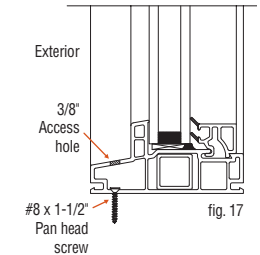

fig. 17
- From the exterior pre-drill 3/8" access holes through the outer wall of the frame as shown on **fig. 17**. Place holes 4" from each corner and then spaced evenly every 8" to 14" apart. The number of fasteners are dependent on the overall frame size.